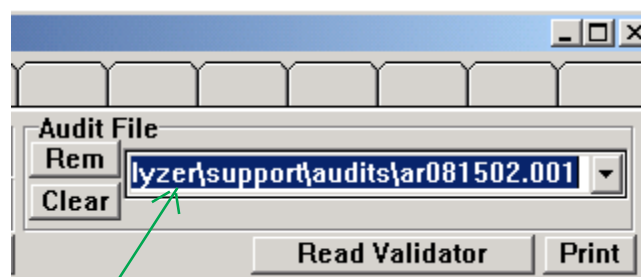

fig.4
- 3) The files that you selected will be listed under the "audit file" box. To view all of these files by serial number and comments, (name & location that you typed in the previous steps for fig.2,) place the cursor under the "audit file" box so that it is just inside the black border. (see fig.4)